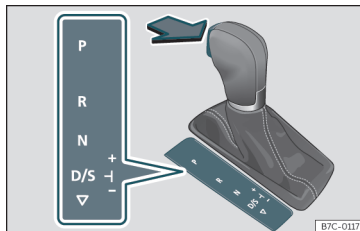

Fig. 197 Selector lever lock.
- Press the brake pedal *and*, at the same time, hold the lock button in the direction of the arrow >>> Fig. 197.